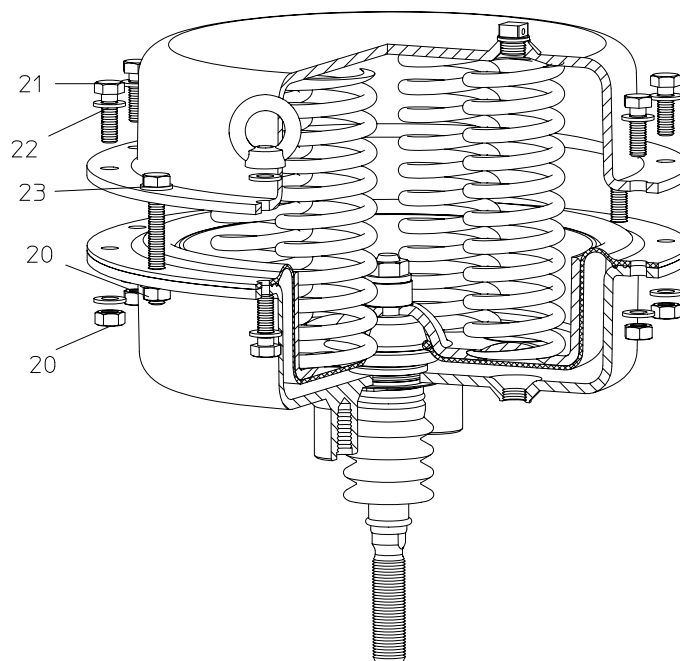

Fig. 20
- *For operations with increased initial spring tension (see Fig. 20), additional screws have been provided for. For the sizes DP30 / DP32 and DP33, there are an additional two screws and for DP34, there are four longer screws (23) provided. As the last step, the screws are to be loosened equally, in order to disassemble the initial spring tension.*